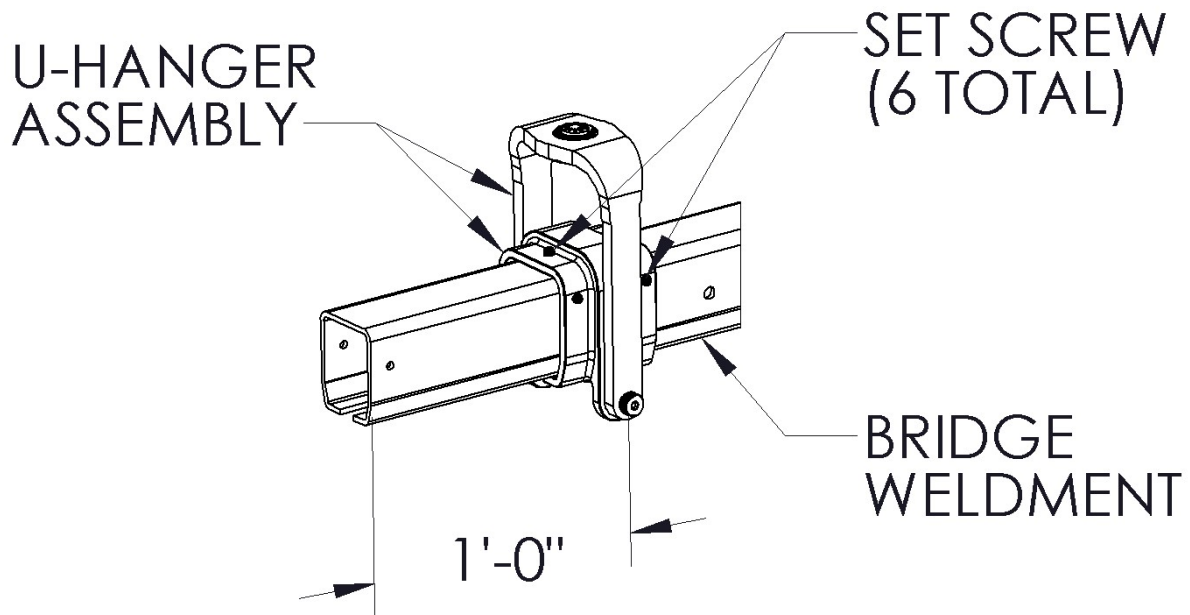
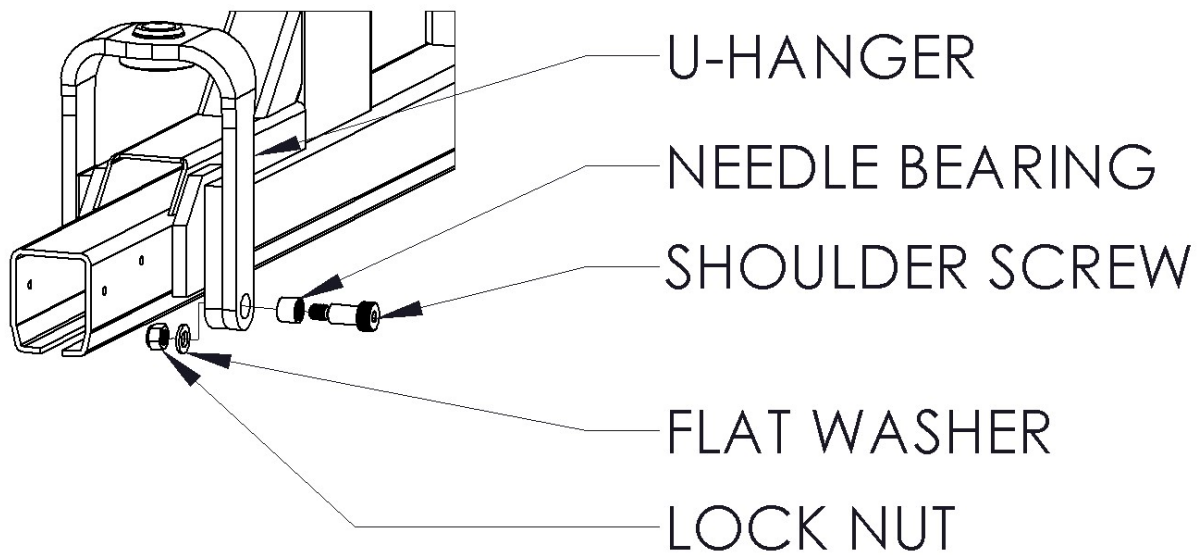

Figure 5a: 250 lb – 2200 lb U-hanger connection
Figure 5b: 4000 lb. – 4400 lb. U-hanger connection
1. For assembly of 250 lb. – 2200 lb. capacity bridge assembly refer to figure 5a for 4000 – 4400 lb. capacity refer to figure 5b
2. Install U hanger assembly to the bridge per the included bridge assembly lightly lock the hex head set screws (see figure 5a)